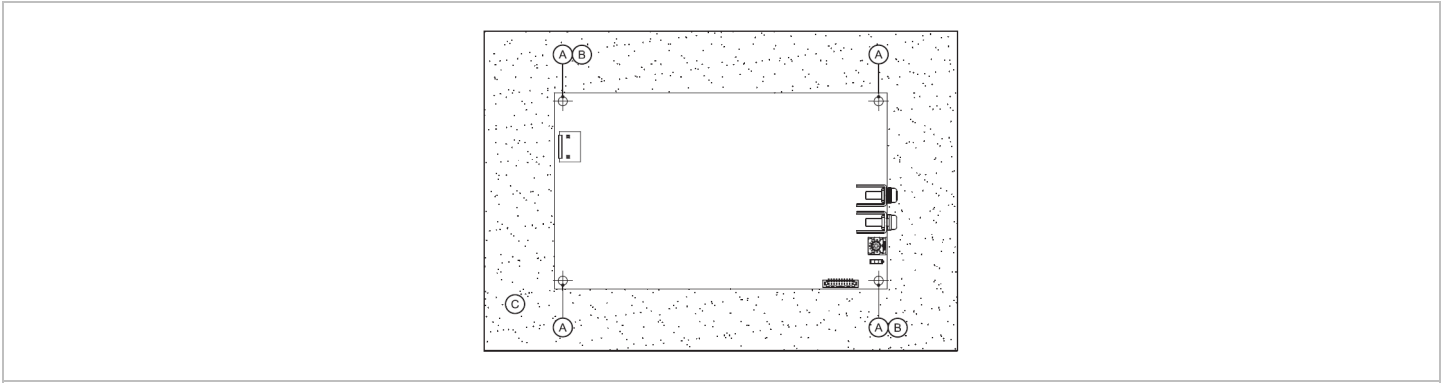
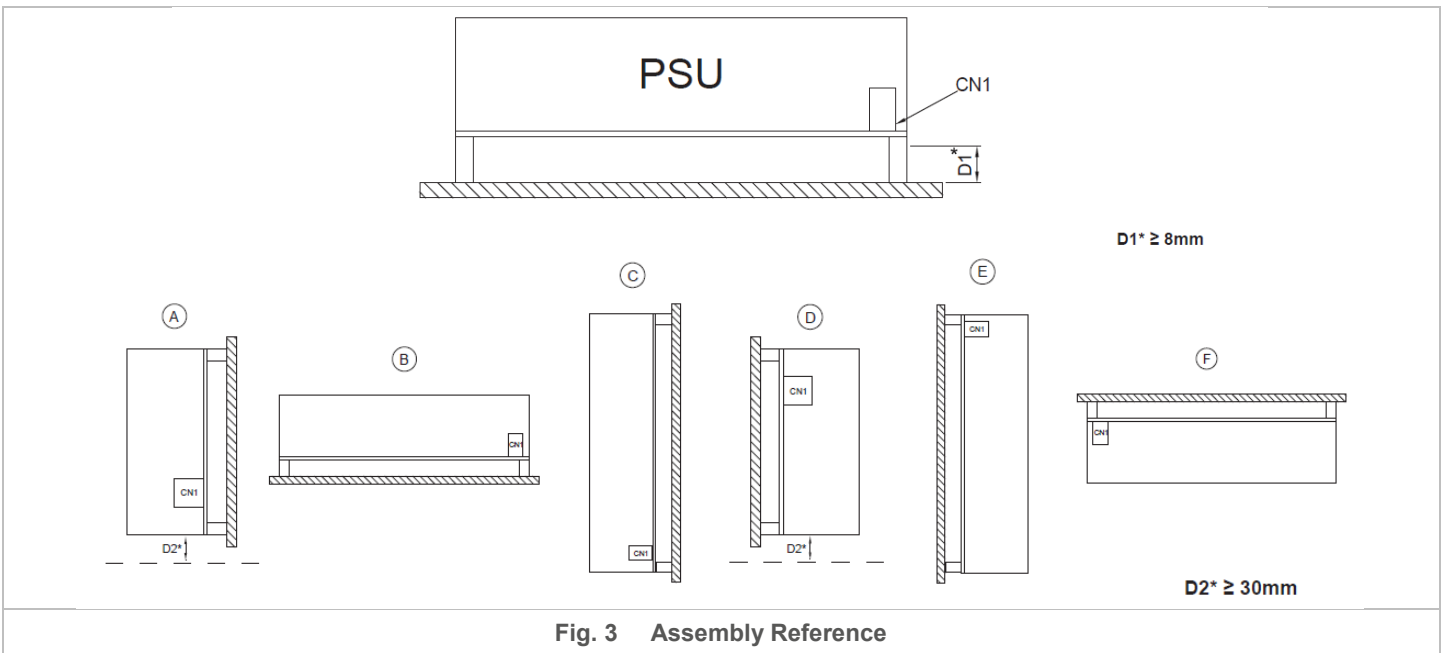

Fig. 2 Installation of the Device
Fig. 3 Assembly Reference
- Please insert an insulation sheet between the system and product, if the safety distance is < 8mm for D1 (Refer to Fig. 3 Assembly Reference)
- For (A), (D) orientations, ensure sufficient convection cooling, always maintain a distance of $\geq 30\text{mm}$ for D2 below the device while the device is in operation.
- For Protection against shock to Class I with PE (protection earth) and Class II with or without FG (functional ground) product, the two mounting holes (marked (B) in Fig. 2) need to be connected together to the system's protective earth or functional ground. Pollution degree and EMC performance with different connections please refer to environment and EMC section.